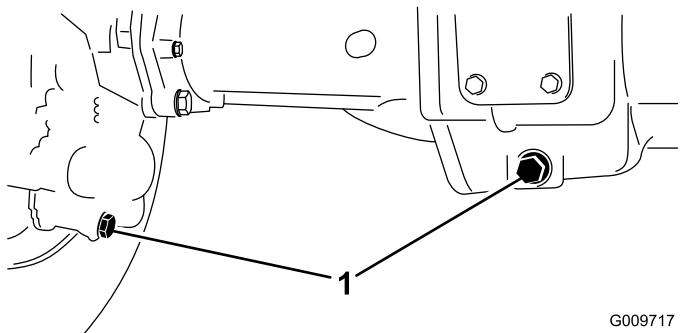

Figure 80
2. Clean the area around the 3 drain plugs—1 on each end and 1 in the center (Figure 80).